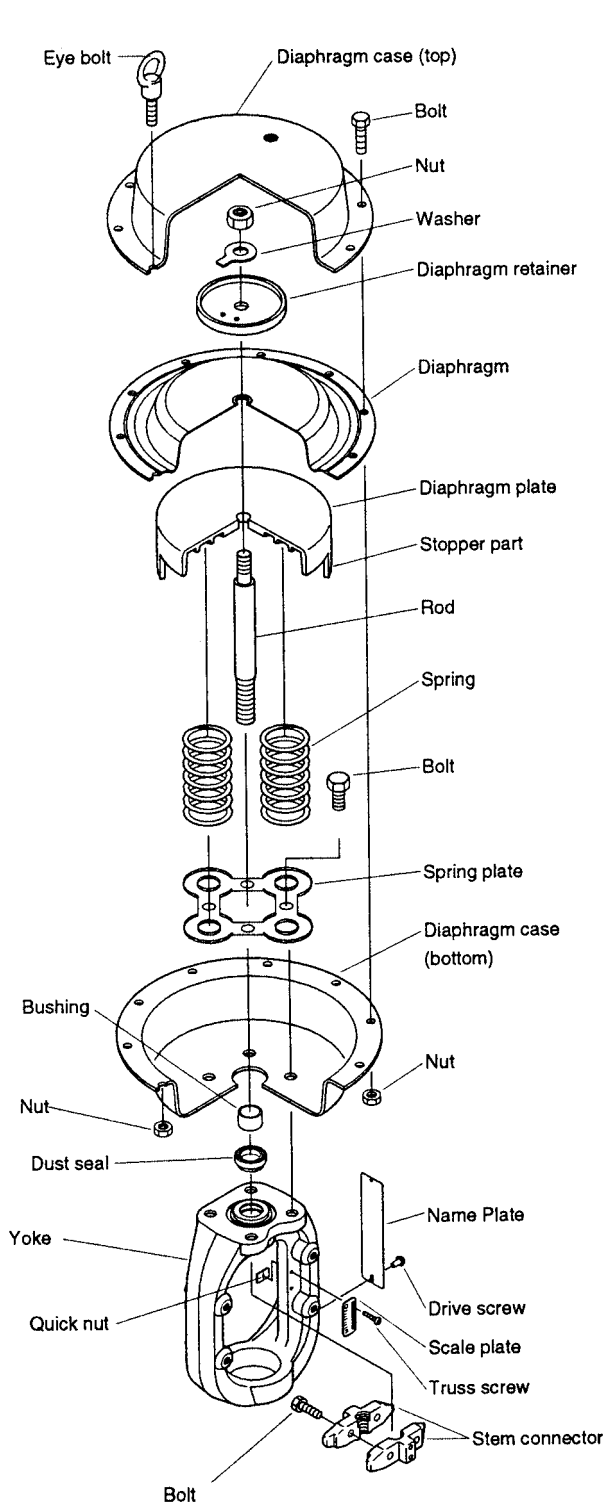
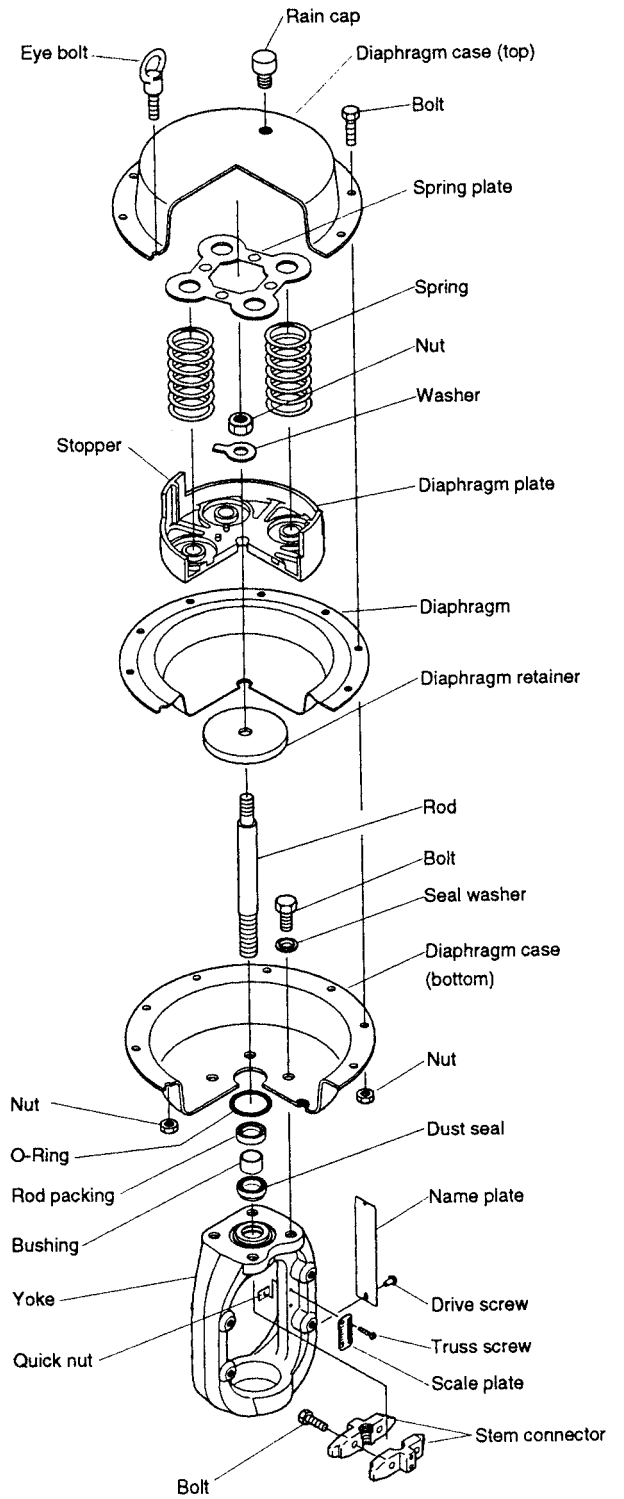

Fig. 4-6 Direct Action model PSAID
Fig. 4-7 Reverse Action model PSAIR
A. Direct action model (see Figure 4-6)
- (1) Disconnect the air piping and detach the accessories from the actuator.
- (2) Remove the stem connector.
- (3) Remove the clamping bolts (except the pair of eyebolts) from the diaphragm case.
- (4) Alternately and evenly loosen the pair of eyebolts. The initial setting of the springs is achieved using these eyebolts.
- (5) Removing the diaphragm case. Pull the actuator rod upward and out together with the diaphragm.
- (6) Take out the springs.
B. Reverse action model (see Figure 4-7)
- (1) Disconnect the air piping and detach the accessories from the actuator
- (4) Alternately and evenly loosen the pair of eyebolts. The initial setting of the springs is achieved using the eyebolts.
- (5) Remove the diaphragm case. Take on the springs.
- (6) Pull the actuator rod upward and out together with the diaphragm.
Install packing for the rod and dustseal in the correct direction. Refer to Fig.4-6.
Refer to Fig.4-7.